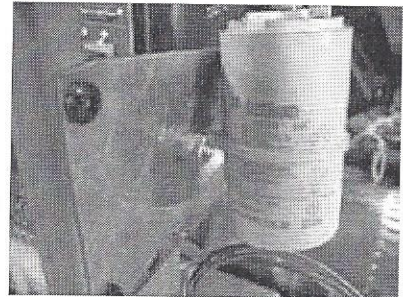

Fig. 4
Step 4 - Mount the capacitor and secure with supplied #8 nut. (See Fig. 4) *Note: If a capacitor is already mounted REPLACE WITH NEW ONE SUPPLIED.